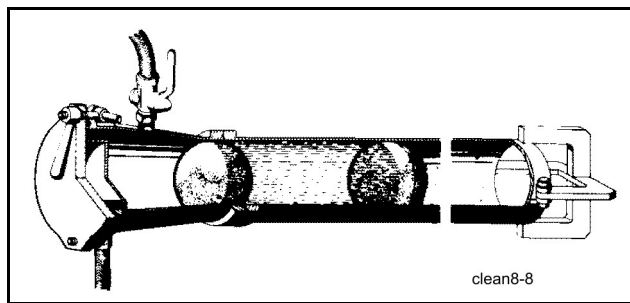

Fig. 123 Rinsing the pumping line
- To do this, press a soft sponge rubber ball about 1 m into the pumping pipe (**Fig. 123**).